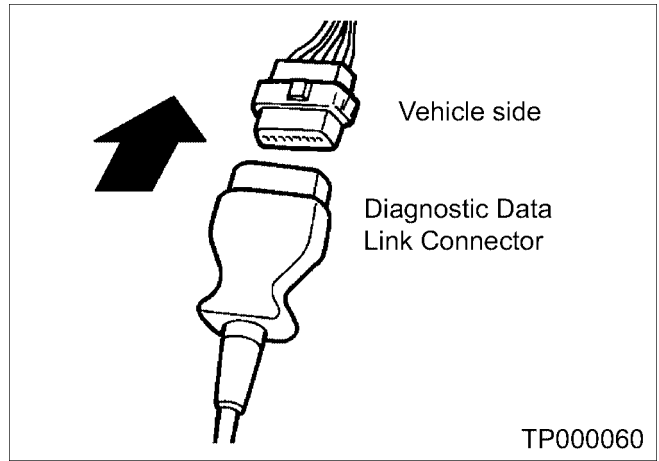

Figure 2
2. Connect CONSULT-II to the vehicle (see Figure 2).